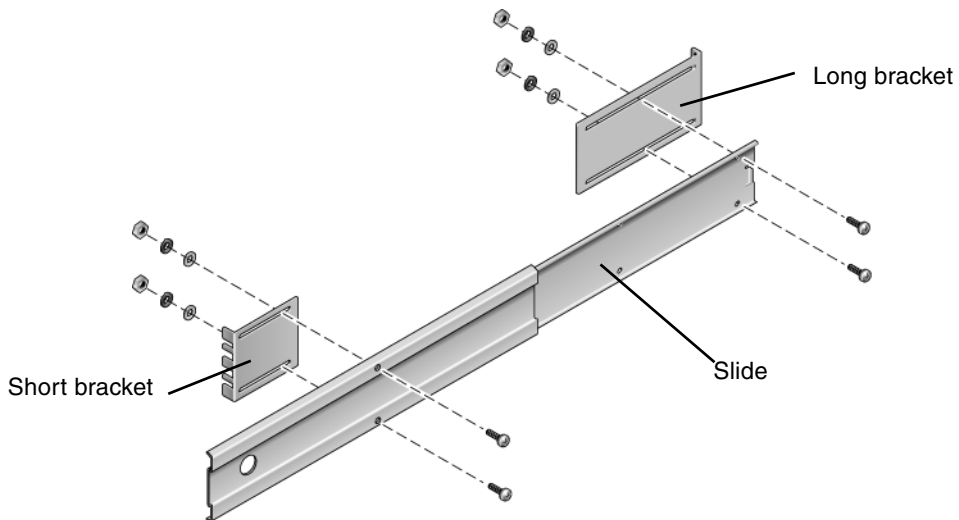

FIGURE 2-11 Securing the Slide to the Brackets
10. Secure the slide onto the short and long brackets at the front and rear of the rack (FIGURE 2-11).